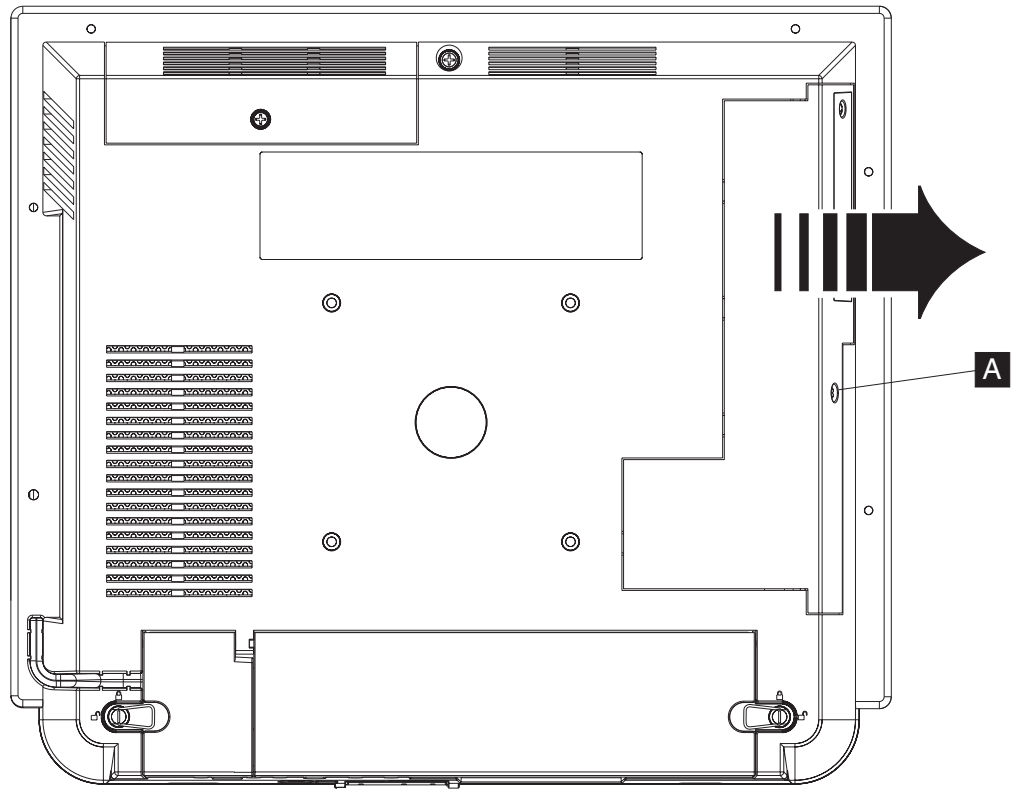

Figure 8. Removing the side access door
1. Loosen the captured screw on the side access door (**A** in Figure 8) and slide out in the direction shown to remove.
2. Loosen the captured screw holding the side access door (refer to Figure 8 on page 16).